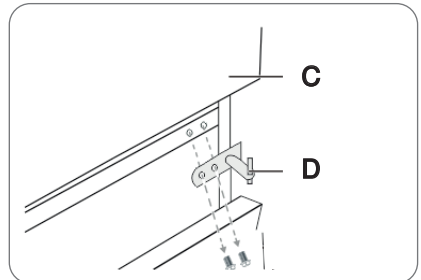

Fig. 5.3
Install central hinge (D) on the LH side, insert and tighten the two previously removed screws (Fig.5.3).